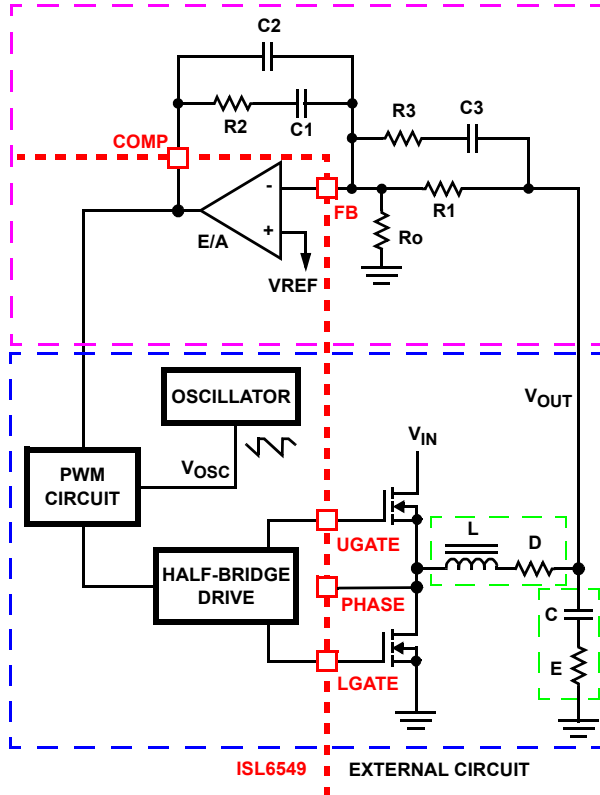

FIGURE 10. VOLTAGE-MODE BUCK CONVERTER COMPENSATION DESIGN
Figure 10 highlights the voltage-mode control loop for a synchronous-rectified buck converter, applicable to the ISL6549 circuit. The output voltage (VOUT) is regulated to the reference voltage, VREF. The error amplifier output (COMP pin voltage) is compared with the oscillator (OSC) modified sawtooth wave to provide a pulse-width modulated wave with an amplitude of VIN at the PHASE node. The PWM wave is smoothed by the output filter (L and C). The output filter capacitor bank's equivalent series resistance is represented by the series resistor E.
The compensation network consists of the error amplifier (internal to the ISL6549) and the external R1-R3, C1-C3 components. The goal of the compensation network is to provide a closed loop transfer function with high 0dB crossing frequency (F_0 ; typically 0.1 to 0.3 of F_{SW}) and adequate phase margin (better than 45 degrees). Phase margin is the difference between the closed loop phase at F_{0dB} and 180° . The equations that follow relate the compensation network's poles, zeros and gain to the components (R1, R2, R3, C1, C2, and C3) in Figure 10. Use the following guidelines for locating the poles and zeros of the compensation network:
1. Select a value for R1 (1kΩ to 5kΩ, typically). Calculate value for R2 for desired converter bandwidth (F_0). If setting the output voltage via an offset resistor connected to the FB pin, R_o in Figure 10, the design procedure can be followed as presented.